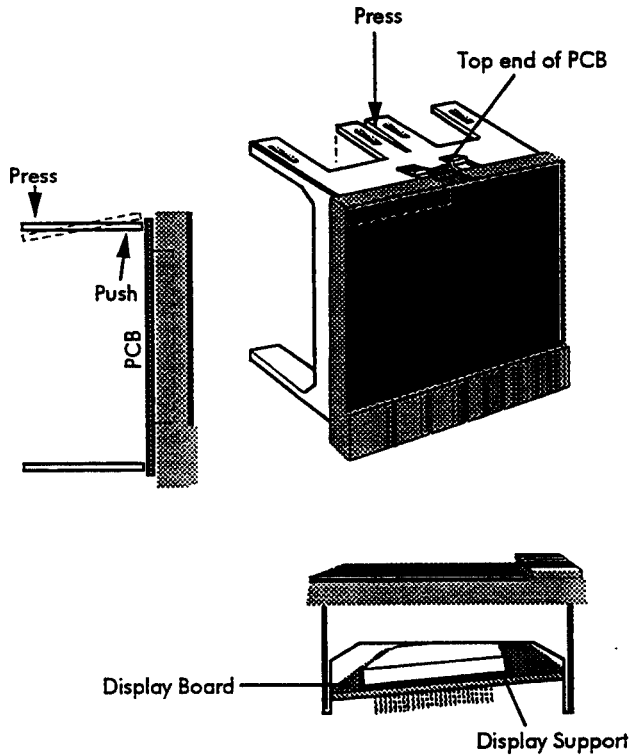

Figure 8-4 Removing display board
2. Grasp the bezel assembly in one hand and depress the central, top card locks inwards whilst pushing from the inside, outwards in order to distort the moulding and release the top end of the PCB. See figure 8-4.